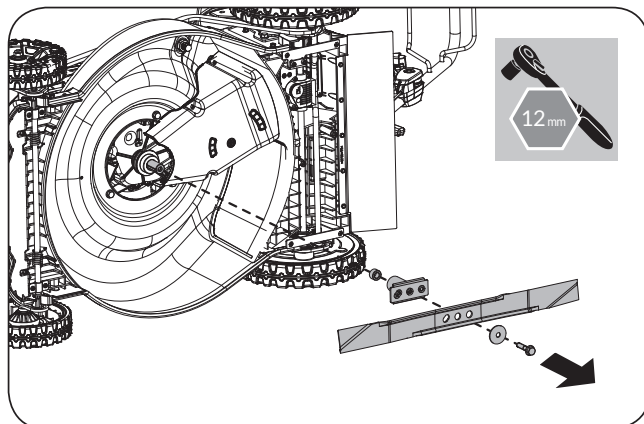

Figure 22
2. Remove the blade. (See **Figure 22**)